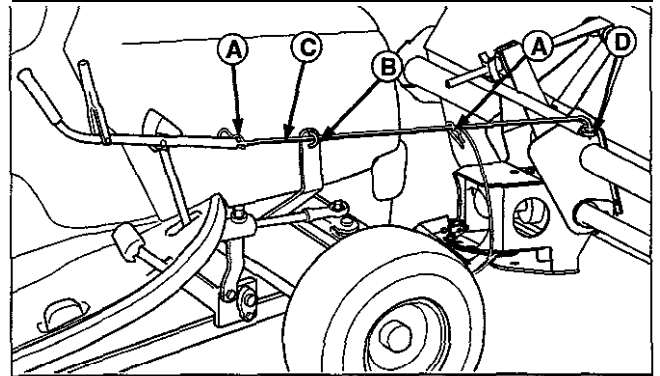

figure 7
2. See figure 7. Insert the sweeper angling rod (C) through the support arm eye bolt (B).
4. See figure 7. Attach the angling rod to the back of the sweeper using a 1/2 in. flat washer and hairpin clip (D).